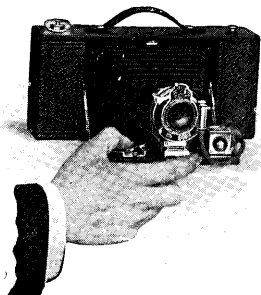

FIG. 10
1. To disengage front from catch so that it may be pushed back, press down with thumb (Fig. 10) on lever of focusing device. See Fig. 2, page 14.